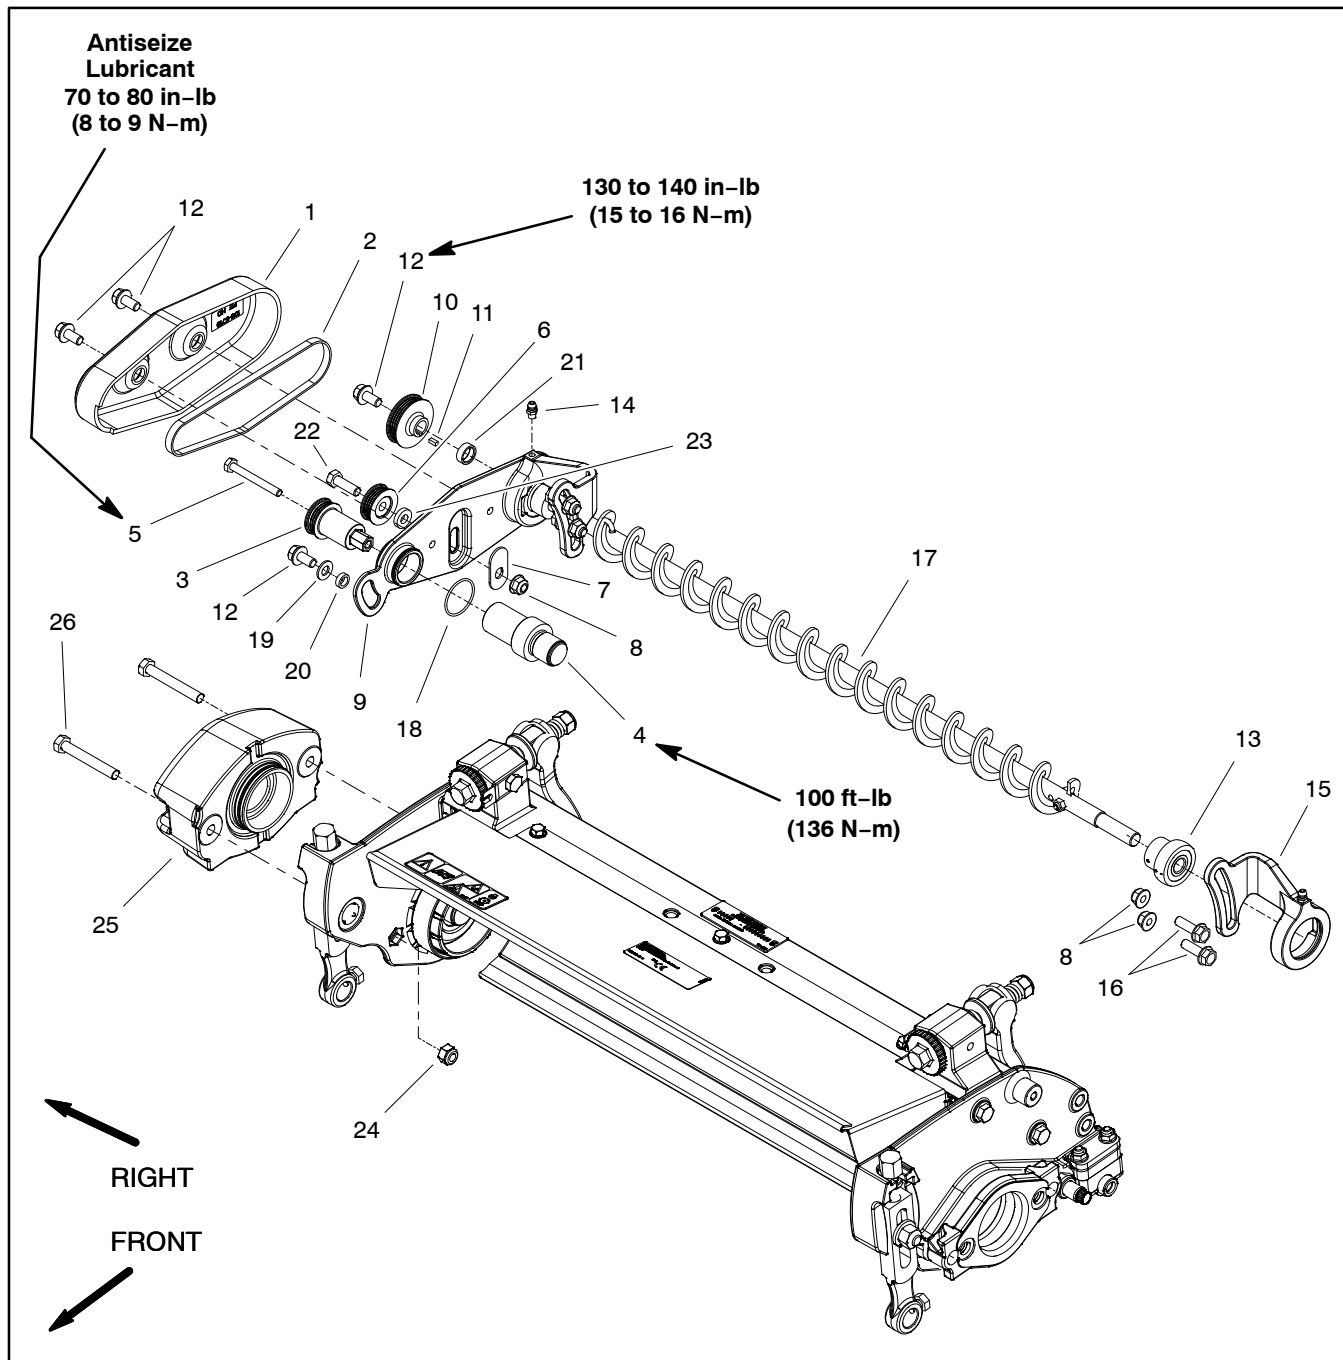
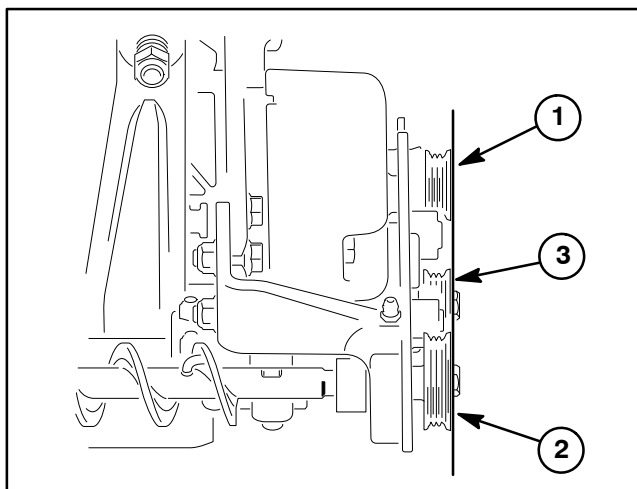
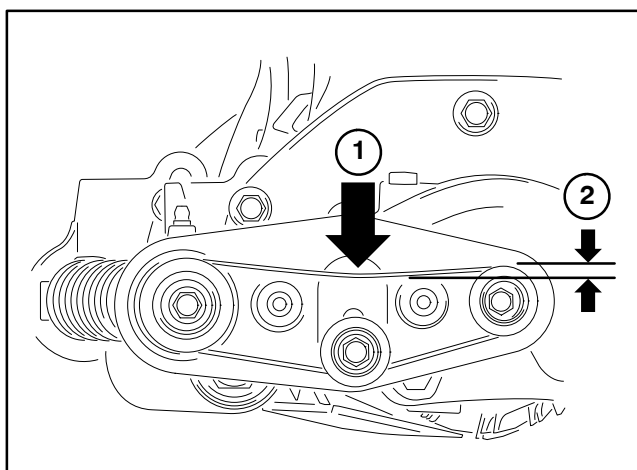

Figure 41
Figure 43
Figure 44
## Disassembly (Fig. 41)
3. To remove roller brush drive belt (item 2):
A. Loosen cap screw (item 22) and flange nut (item 8) that secure idler pulley assembly (item 6) to drive plate.
4. Disassemble roller brush components as necessary using Figure 41 as a guide.
## Assembly (Fig. 41)
2. Assemble roller brush components using Figure 41 as a guide and the following assembly notes:
A. The screws (item 12) that are used to secure the cover (item 1), driven pulley (item 10) and drive plate (item 9) have a threadlock feature to prevent the screws from loosening. If original screws are being re-used during assembly, apply Loctite #242 (or equivalent) to threads of screws.
B. Apply a light coating of grease to O-ring (item 18) before installing on drive plate flange. Make sure that O-ring is correctly positioned in groove in flange.
C. Apply antiseize lubricant to threads of cap screw (item 5) that retains drive pulley (item 3). Torque cap screw from **70 to 80 in-lb (8 to 9 N-m)** to secure drive pulley to pulley driver.
D. Secure driven pulley (item 10) to brush shaft with threadlock screw (item 12). Torque screw from **130 to 140 in-lb (15 to 16 N-m)**.
E. Secure pulley driver (item 4) to cutting reel shaft with **100 ft-lb (136 N-m)** torque.
4. Check alignment of pulleys with a straight edge placed along the outer face of the pulleys (Fig. 43). The outer faces of the drive, driven and idler pulleys should be aligned. If necessary to align pulleys, loosen locking collars on brush bearings and move brush assembly until pulleys are aligned. Once pulleys are aligned, secure brush with bearing locking collars.
5. To install brush drive belt (item 2):
A. Make sure that idler pulley (item 6) is loose on drive plate.
A. Push down on the idler pulley and secure with cap screw (item 22) and flange nut (item 8). Make sure that cover plate (item 7) is covering the slot in the drive plate to prevent debris from entering the brush drive area.
B. After idler pulley is secured, check that drive belt has approximately 1/4" (6 mm) deflection at the center of the belt with 2 lb (1 kg) of force applied to the belt (Fig. 44).